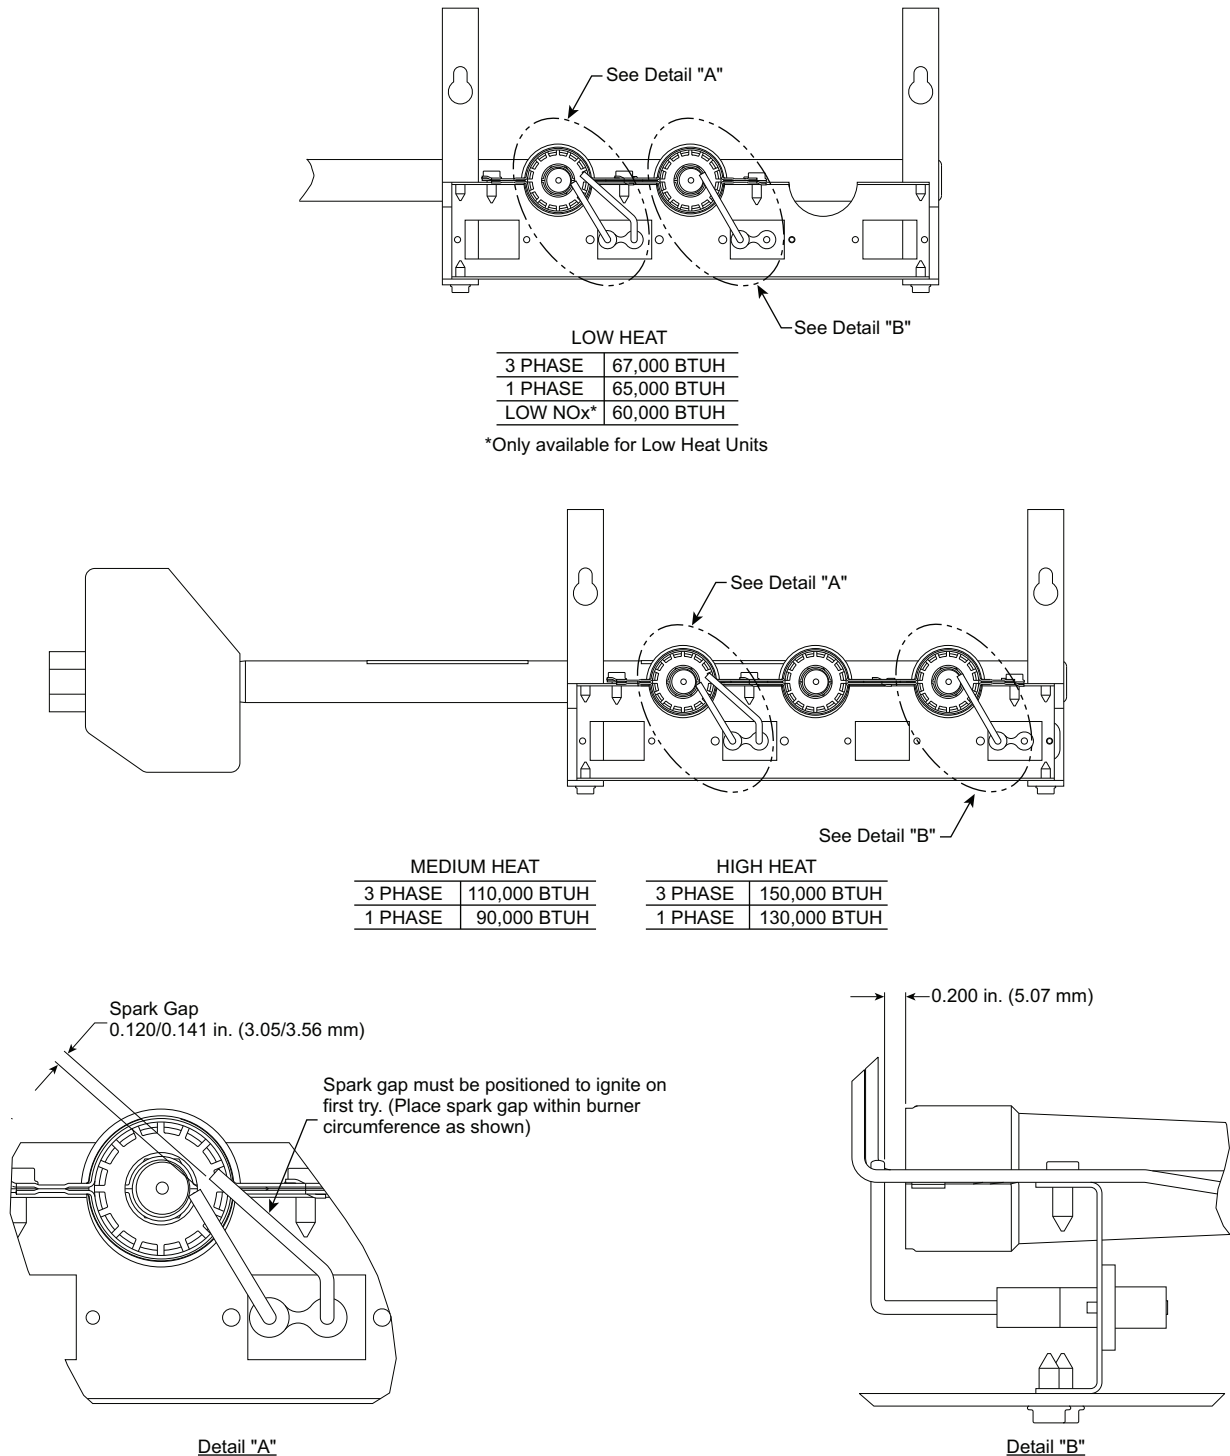

Fig. 60 — Spark Adjustment (Size 04-07)
4. Adjust spark gap. (See Fig. 60.)